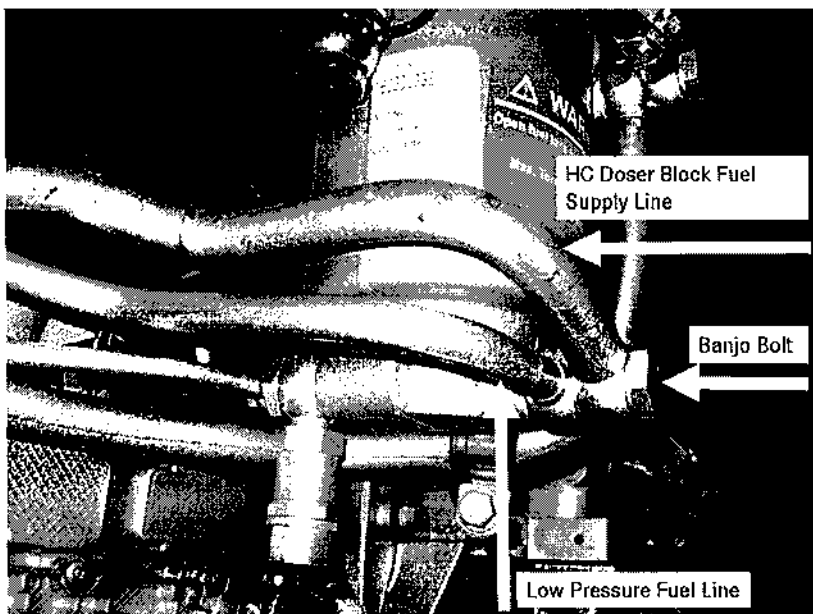

Figure 4 Fuel Filter Housing Banjo Bolt Removal (EPA07 Configuration)
8. Remove banjo bolt at other end of low pressure fuel line at fuel filter housing. Discard the banjo bolt and seal rings. See Figure 4 (EPA07 configuration).